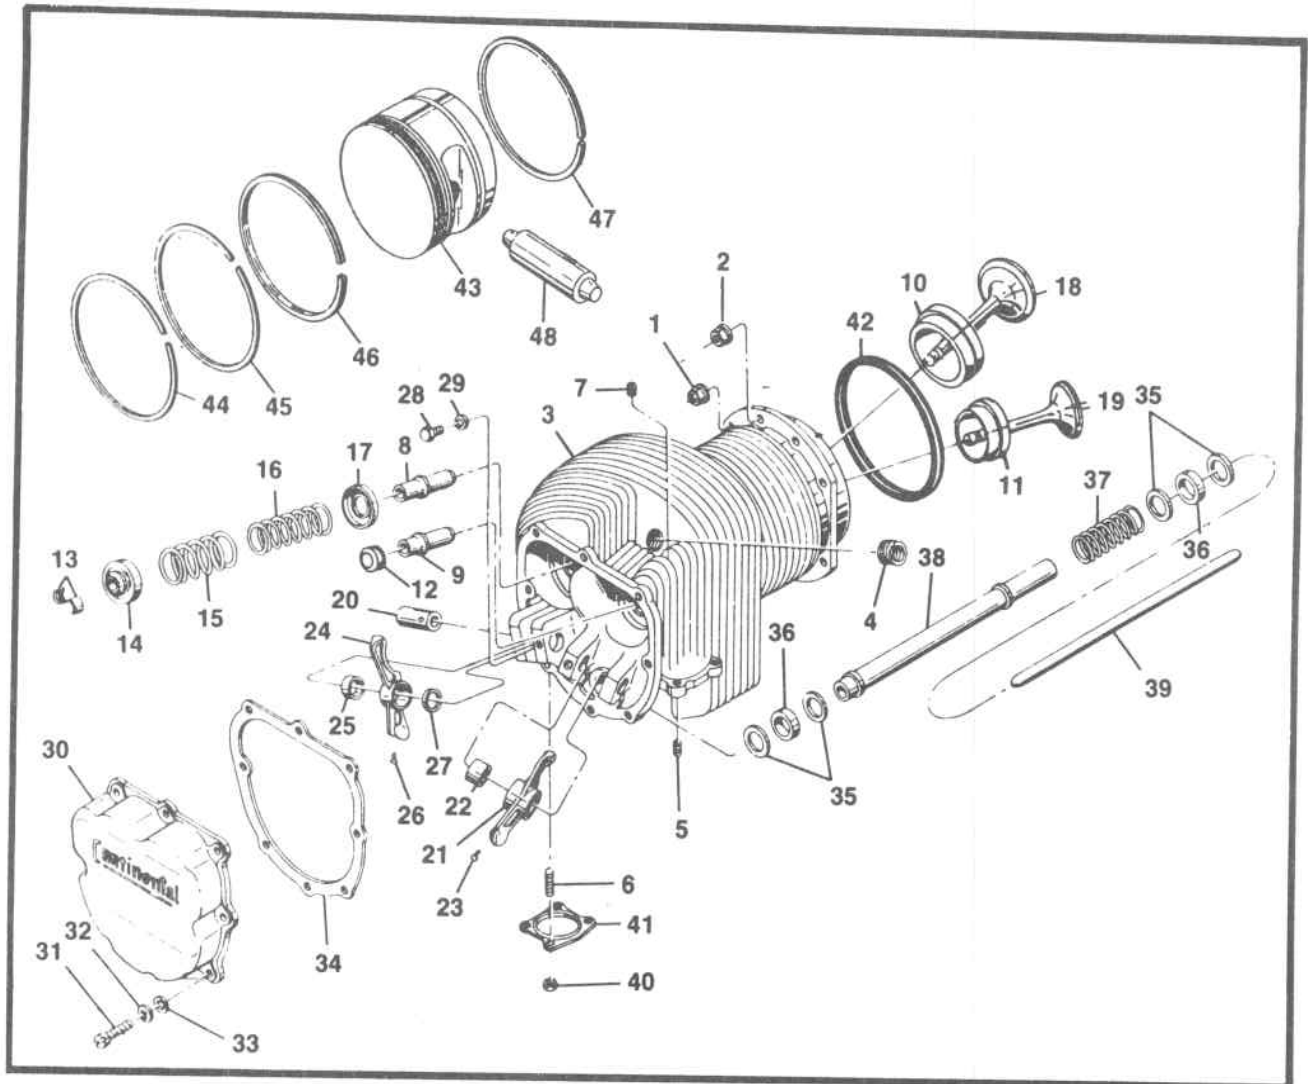
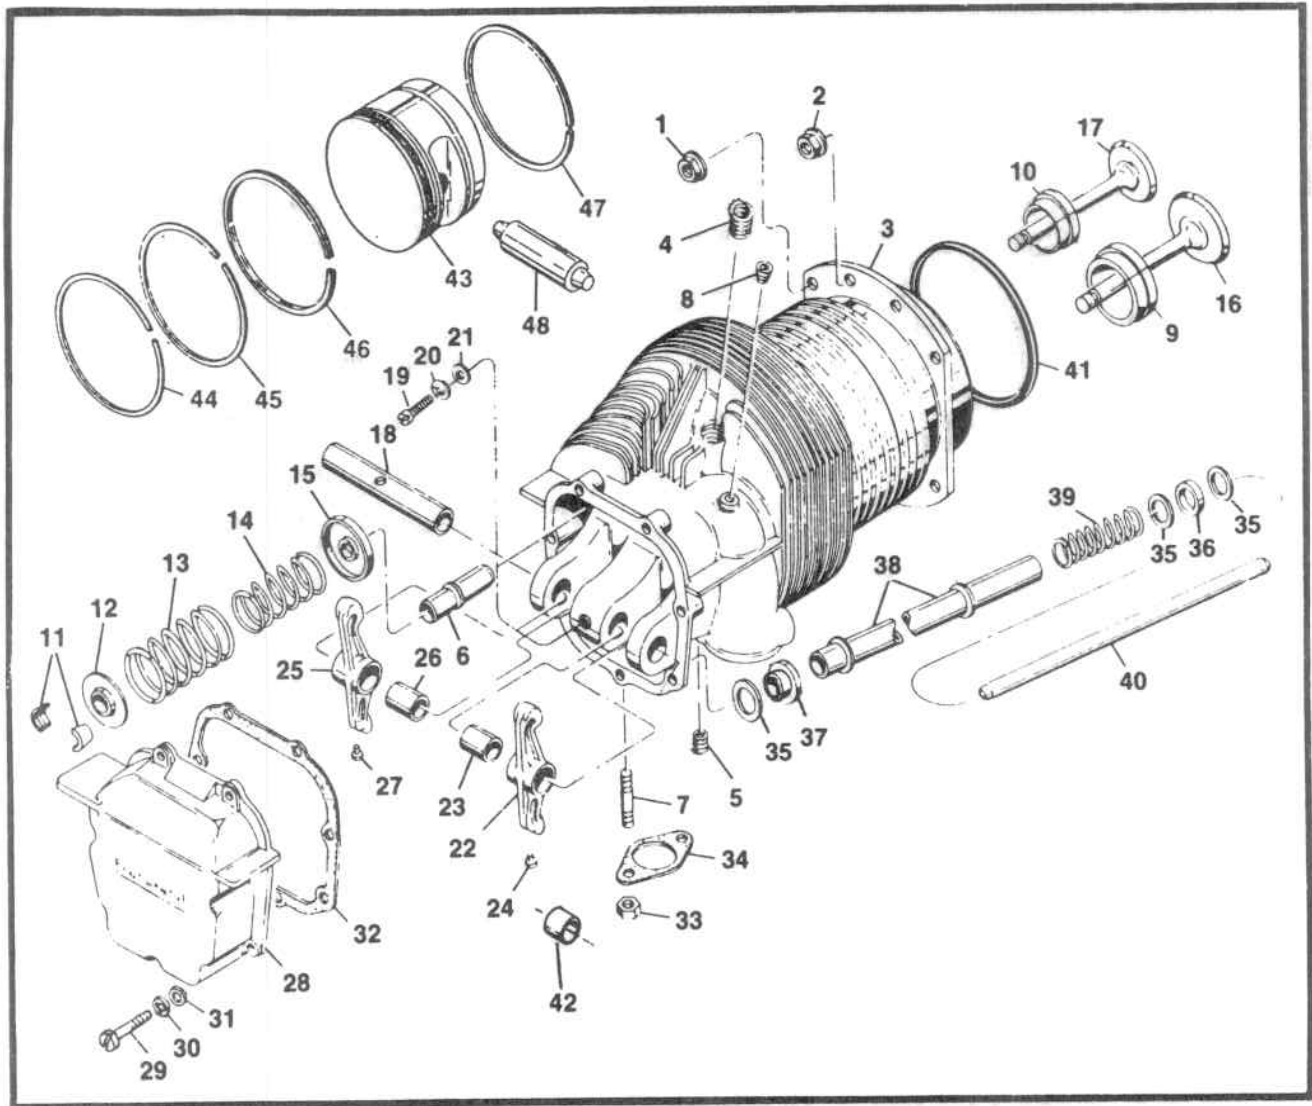

FIGURE 72-10-14A. CYLINDER ASSEMBLY (INCLINED VALVE)
FIGURE 72-10-14B. CYLINDER ASSEMBLY (STRAIGHT VALVE) IO-470-J,K.
- G. Remove the oil dipstick and six sets of rocker cover attaching hardware (31, 32, 33, Figure 72-10-14, Inclined Valve) or (29, 30, 31, Figure 72-10-14, Straight Valve). Using a rubber mallet, gently tap and remove the rocker covers (30, Figure 72-10-14A) or (28, Figure 72-10-14B).
- I. Remove the rocker shaft retaining bolt (28, Figure 72-10-14A) or bolts (19, Figure 72-10-14B) as applicable.
- J. While holding the lower ends of both rockers inward (21, 24, Figure ;72-10-14A) or (22, 25, 72-10-14B), push the rocker shafts (20, Figure 72-10-14A) or shaft (18, Figure 72-10-14B) as applicable out to free the rockers and remove them. Withdraw both pushrods (39, Figure 72-10-14A) or (40, Figure 72-10-14B). Repeat the process on the other cylinders.
- K. To remove each pushrod housing (38), push it toward the crankcase against its spring (37, Figure 72-10-14A) or (39, Figure 72-10-14B) until the outer end is clear of the cylinder hole, lift the outer end away from cylinder and remove housing, spring, steel washers and seal. A spring compressor that may assist pushrod housing removal can be purchased from Burroughs Tool Corporation (See Tool Section, Chapter 1 for details).
- O. Turn the crankshaft until piston in cylinder being removed is at top dead center. Remove the base nuts from the three top attaching studs and through bolt. Cradle the cylinder in either arm, and withdraw it straight. Catch the piston with the other hand as the cylinder skirt comes off, and lower it carefully. Remove piston pin (47 or 48) and piston (43) with rings (44, 45, 46, 47) as an assembly. Remove rings (44, 45, 46 & 47) from piston (43). Be careful not to score piston with ring ends.